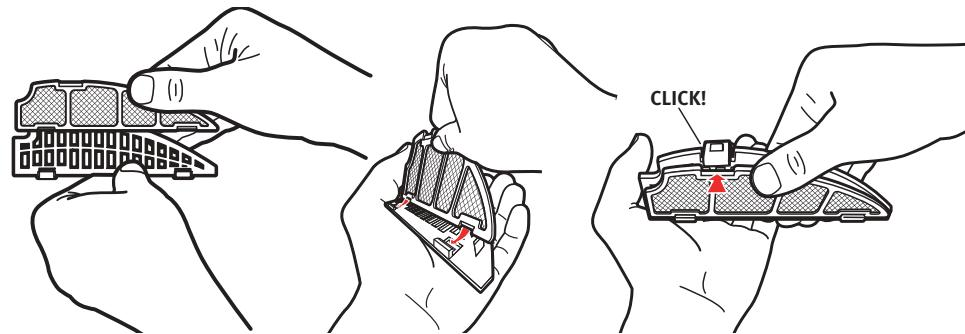

FIGURE 10A-C: SNAP OUT OLD FILTER FROM FILTER DOOR FRAME (FIGURE 10A). SLIDE NEW
5. Unclip the old Air Filter from the Filter Door Frame (Figure 10A).